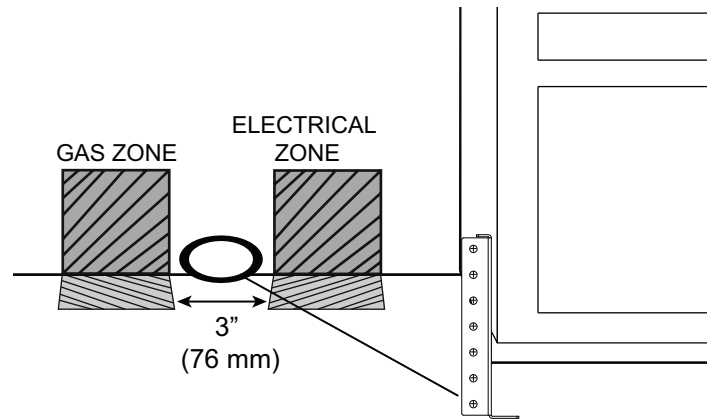
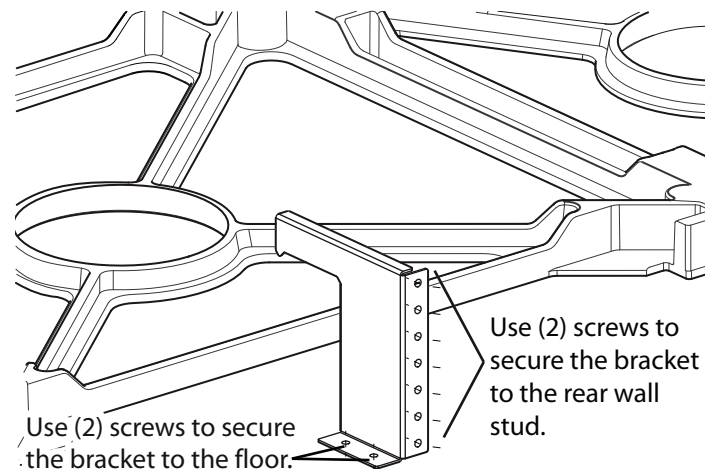

Figure 11: Anti-tip Bracket Mounting Location
Figure 12: Anti-tip Bracket
- At least (2) of the bracket mounting screws must firmly fasten the anti-tip bracket to the floor, and (2) of the mounting screws (or drywall anchors) must firmly fasten the anti-tip bracket to the rear wall (see *Figure 11* and *Figure 12*).
1. Place bracket on floor near the center of where the unit is to be finally located (*Figure 11*).
2. Secure bracket into the wall stud using (2) mounting screws or drywall anchors, as appropriate (*Figure 12*).
3. Secure the bracket to the floor using the screws provided (*Figure 12*).